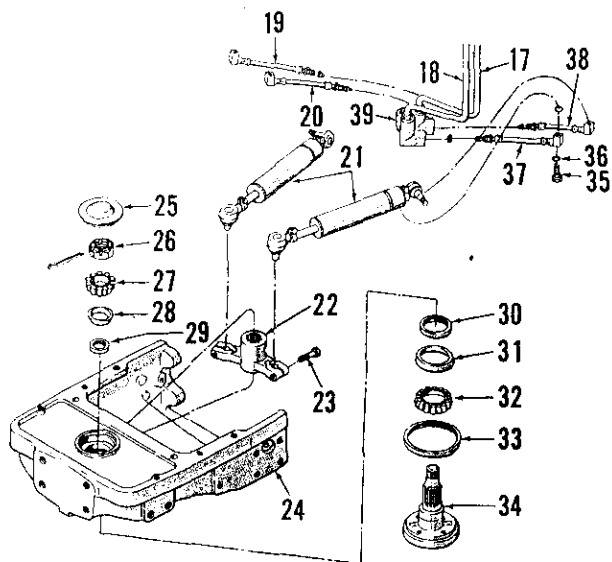

Fig. 43-Exploded view of model 4200 pedestal, steering shaft and steering cylinders. Fluid lines (17 and 18) lead to "Hydramotor" steering unit.
To renew pivot pins and bushings, proceed as follows: Remove steering arm (8) from steering shaft (34—Fig. 43). Support front end of tractor so as to take weight from pivot pins and support front axle radius rod to keep unit from tipping. Remove retainers (1 and 6—Fig. 40) from front pivot pin and remove bolt (15) from rear pivot pin. Remove both pivot pins, raise tractor to clear front axle and roll the unit forward. Remove bushings (2 and 14) and carefully install new bushings. Bushings are final sized and should not require reaming if not distorted during installation. Renew thrust washers (12) and pivot pins if worn and reassemble by reversing removal procedure.
50. Refer to Figs. 41 and 42 for exploded views of the single and dual front spindle assemblies. Either unit can be bolted to the steering shaft (34—Fig. 43). Single wheel spindle must be installed with offset to left side of tractor as shown in Fig. 41 and dual
46. **R&R FRONT AXLE ASSEMBLY.** To remove the wide front axle assembly as a unit, proceed as follows: Straighten tabs of locking plate (7—Fig. 40) and remove the two cap screws retaining center steering arm (8) to steering shaft (34—Fig. 43). Support front of tractor, unbolt the front (4)
51. R&R FRONT PEDESTAL ASSEMBLY. First, drain cooling system, then remove engine hood and radiator grille assembly. Disconnect radiator hoses and remove radiator from pedestal. Remove covers from top of pedestal and disconnect power steering lines (17 and 18—Fig. 43) from manifold (39). Support front end of tractor and remove wide front axle assembly as outlined in paragraph 52, or if a tri-cycle model, unbolt and remove the spindle and wheel assembly from steering shaft. Attach a hoist to front support, then unbolt and remove front support from engine cylinder block and oil pan. Note: Be careful not to lose or damage shims, if any, located on front support to oil pan bolts.
Remove the nuts from power cylinder rear end assemblies and bump rear ends of cylinders from front support. Remove the cap screws (23—Fig. 43) clamping cylinder front end assemblies in steering shaft arm (22) and remove cylinder from arm. Unbolt manifold (39) from pedestal and lift out manifold, lines and cylinders as a unit.